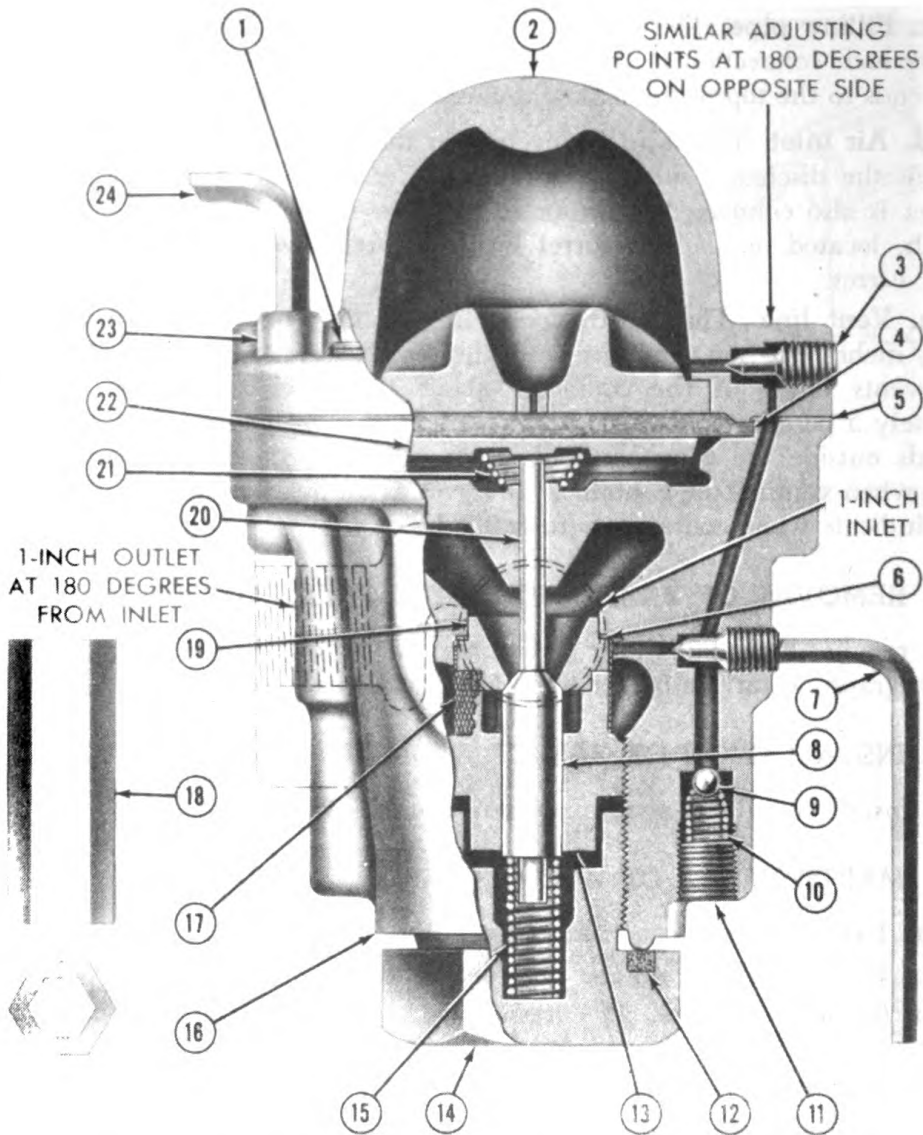

Figure 48—Main pressure regulator (sectional view).
Legend for Figure 48
b. Adjustment. To put the pressure regulator (fig. 48) in operation or to adjust it, it is necessary to charge the dome with a pressure equal to the desired outlet pressure. To do this, proceed as follows:
(1) Close the 1-inch shut-off cock in the outlet line from the regulator. Slowly open the main pressure inlet valve on the inlet side of the regulator.
(2) Insert socket head screw wrench in side body needle valve and open one-quarter to one-half turn.
Note: This is the upper side needle valve in the E12-7R1 mechanized flame thrower because the regulator is installed in inverted position (fig. 11) (reverse position of that shown in figure 48).
(3) Insert socket head screw wrench in dome needle valve (3) (fig. 48) and open slowly, watching the 0 to 1,000 pound gage on outlet side of regulator.
(4) When desired pressure is shown on gage, close dome needle valve tightly and then close body needle valve.
(5) If outlet pressure is too high, close the main pressure regulator valve and then open very slightly the 1-inch shut-off cock in the discharge line from the regulator. Then open dome needle valve with socket head